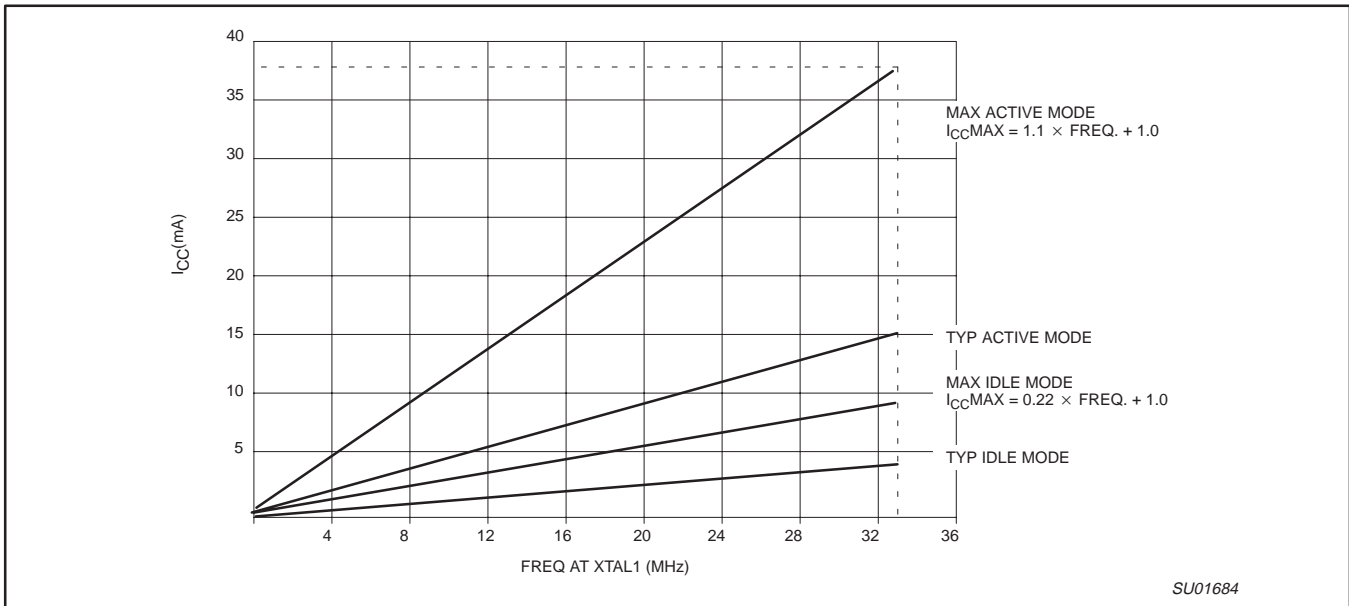

Figure 49. I_{CC} vs. FREQ for 12-clock operation
- See Figures 51 through 54 for I_{CC} test conditions and Figure 49 for I_{CC} vs. Frequency